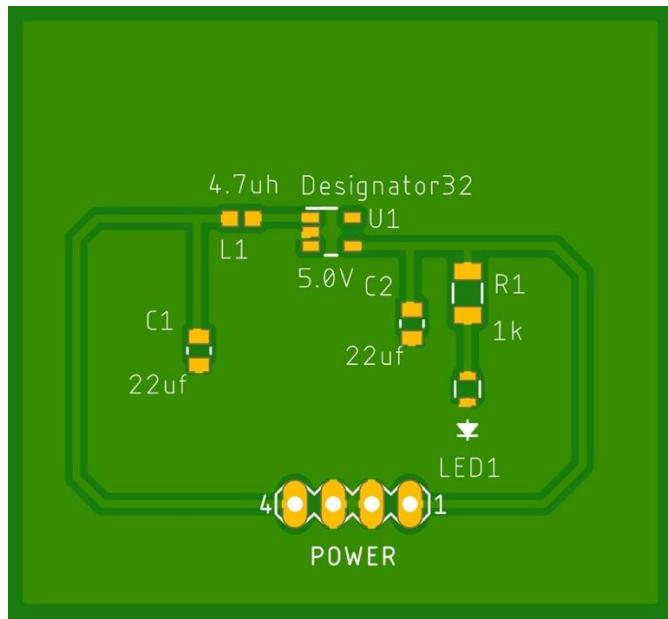

Figure 3: An example circuit board showing the pads to be solder paste.
- Figure 3 is an example of our regulator board, and it shows in yellow the pads that should be covered with solder paste except the through-hole parts (4 pin header at the bottom). These parts will be soldered using wire solder after the surface mount parts are reflowed soldered.